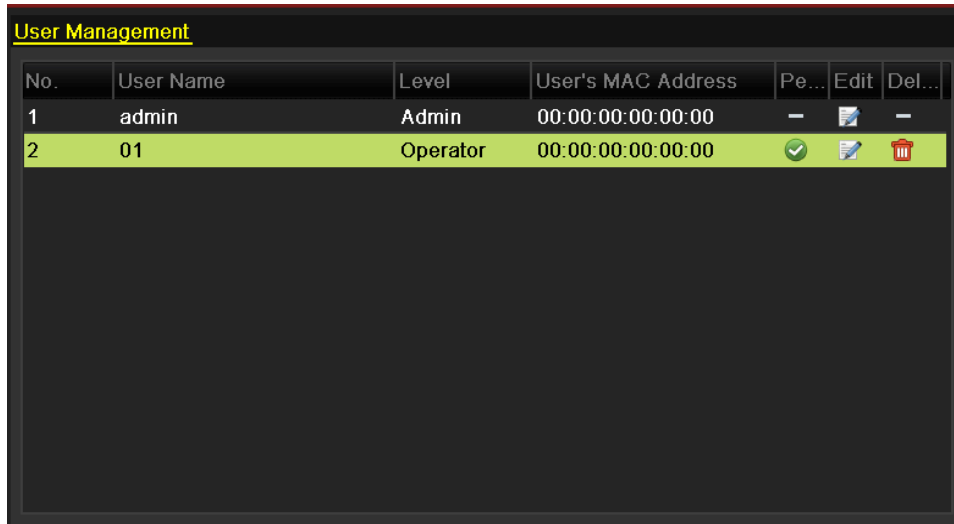

Figure 1. 2 User List
2. Select the user to be deleted from the list, as shown in Figure 1. 2.
2. Select the user to be edited from the list, as shown in Figure 1. 2.